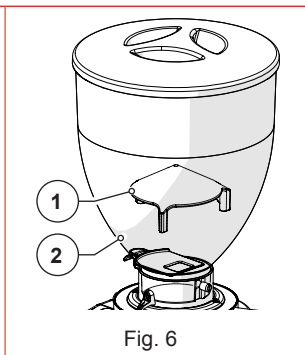

Fig. 6
- **Anti-intrusion device on coffee hopper (Fig. 6)**